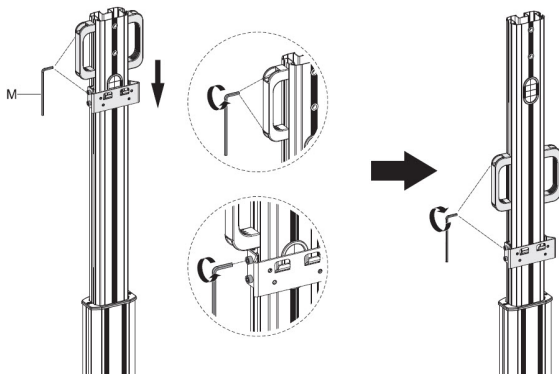

Figure 5
1. Loosen (but do not remove) the **Hex Screws** in the **Handles** of the **Column (B)** and the **Keyboard Platform Attachment Plate**, using the **5 mm Hex Key (M)**. (Figure 5)
2. Adjust the **Handles** and the **Keyboard Platform Attachment Plate** to the desired heights and tighten the **Hex Screws**, loosened in step one, using the **5 mm Hex Key (M)**.